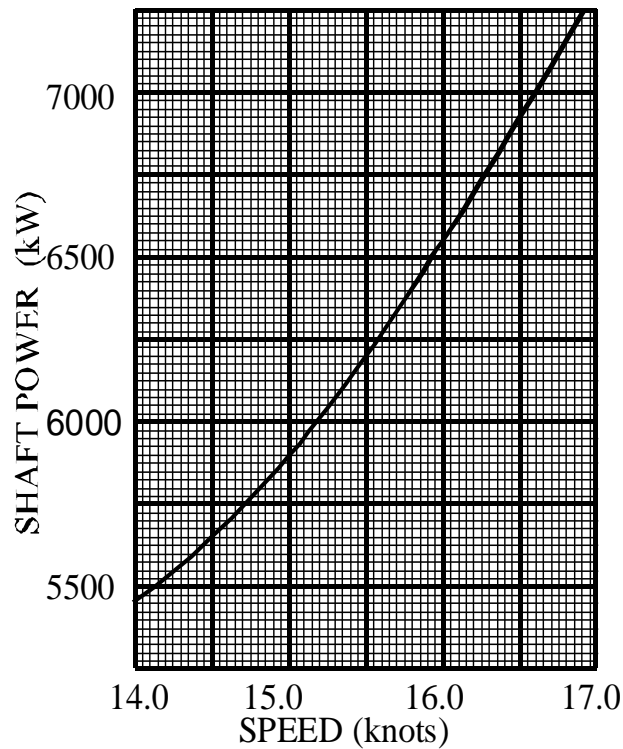

Fig Q6
- (a) the ship speed in knots; (3)
- (b) the Taylor wake fraction; (3)
- (c) the reduced speed at which the ship should travel in order to reduce the voyage consumption by 30%; (2)
- (d) the voyage distance if the voyage takes 30 hours longer at the reduced speed; (4)
- (e) the amount of fuel required for the voyage at the reduced speed. (4)
6. Fig Q6 shows the results of progressive speed trials on a ship at a load displacement of 22350 tonne in sea water of density 1025 kg/m^3 with a wetted surface area of 4860 m.